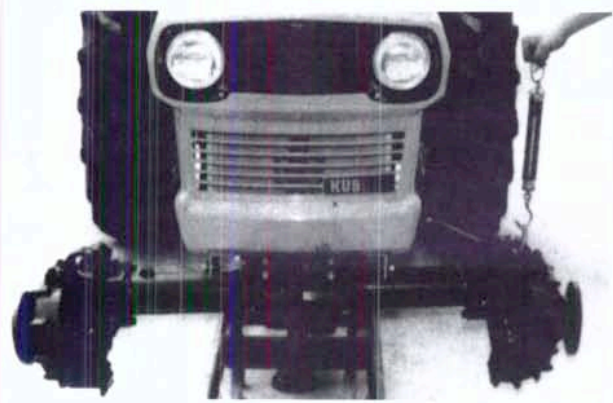

Fig. 9—Use a spring scale to check force required to pivot front axle. Refer to text.
Reinstall axle assembly by reversing disassembly procedure using original pivot pin shim pack (2). Apply grease to front and rear pivot bushings. Use a spring scale to measure force required to pivot axle from lowest position to highest position as shown in Fig. 9. Add or remove pivot pin shims as necessary to obtain recommended pivot force of 49-117N (11-26 pounds). Recommended lubricant for front axle and differential case is SAE 90 gear oil.